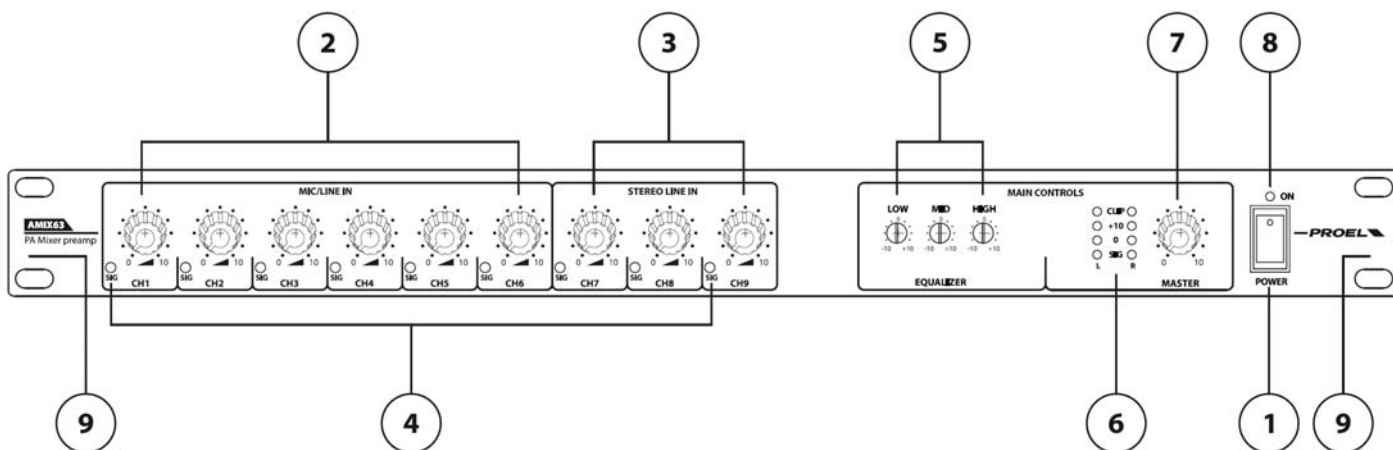

fig.1
Each single stereo input can be used to connect two line inputs from two sources (e.g. two microphones); both, however, will be managed by the same level control (fig.1, ref. 3)
- a. Turn the power switch to the ON position (fig. 1, ref. 1).
- d. Each input channel features an independent volume control (fig. 1 ref. 2, 3).
- e. Check the presence of a signal on each channel using the SIG LED. (fig.1, ref. 4).
- f. Adjust the level of L - R (fig. 2, ref. 5) and MONO OUT (fig. 2, ref. 6) outputs using the MASTER knob (fig. 1, ref. 7). Adjust this potentiometer so that the CLIP indicator remains unlit if you want a good listening level without distortion.